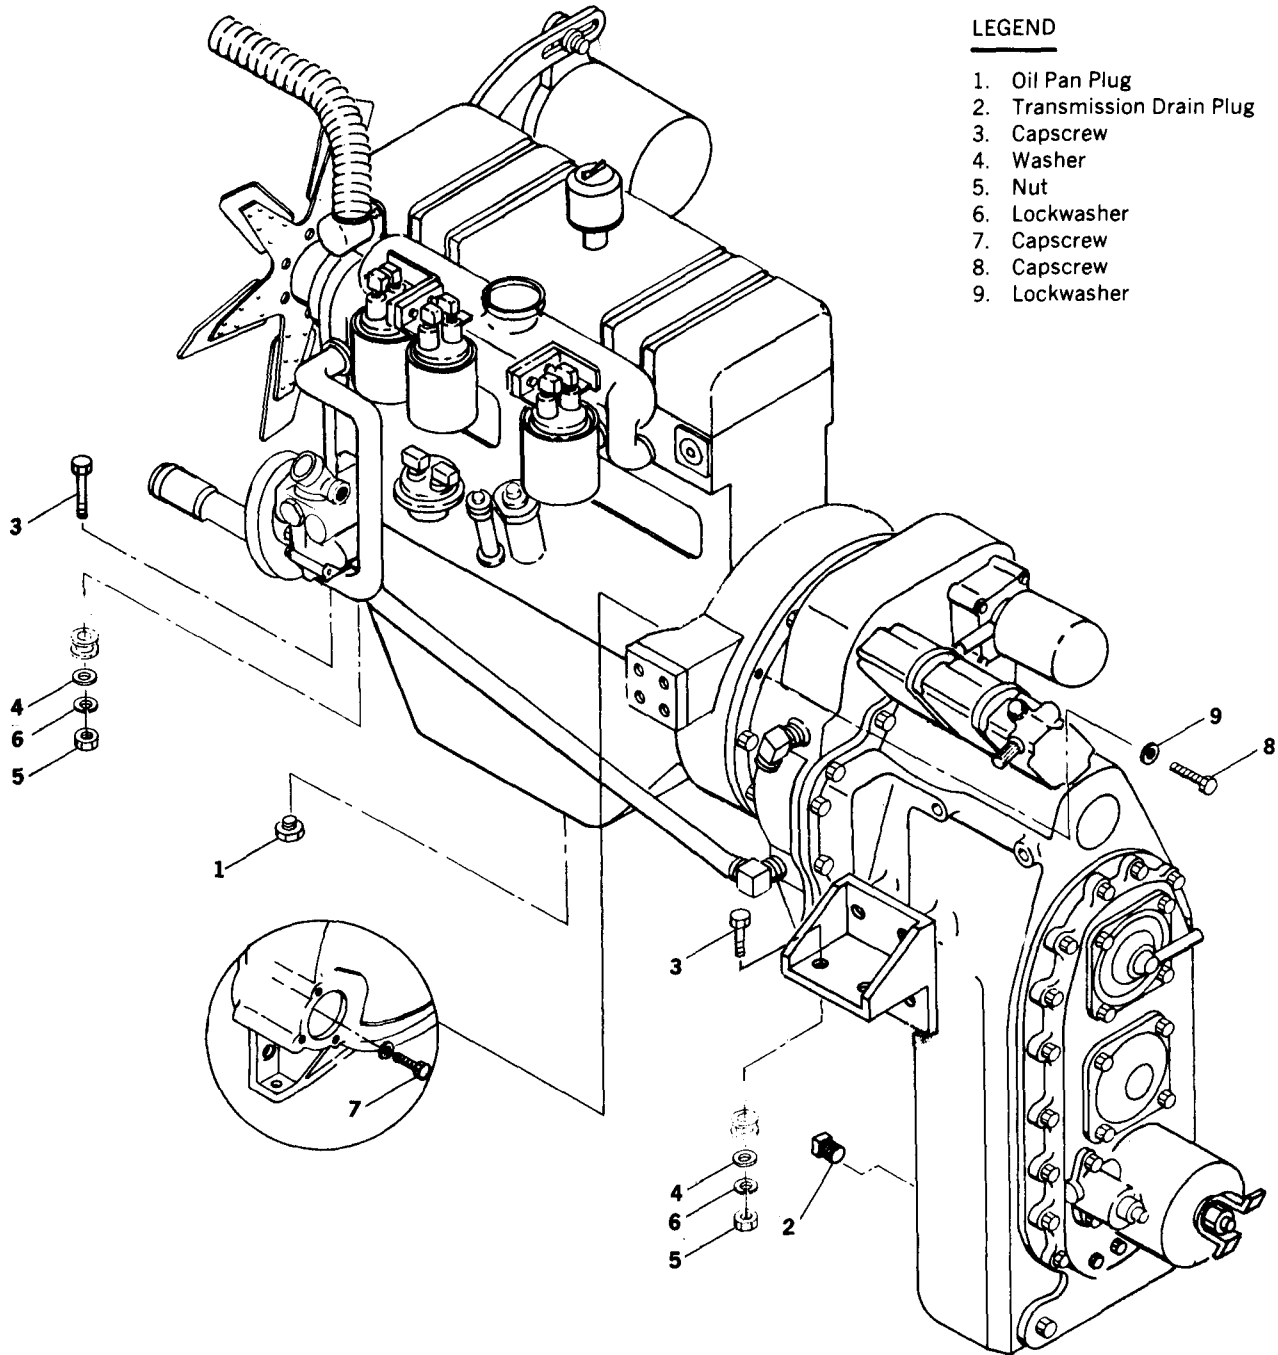

Figure 4-2. Transmission Removal
c. Remove oil pan plug (1, figure 4-2) and drain engine oil into five gallon container. Remove transmission drain plug (2) and drain transmission oil into a five gallon container.
l. Attach hoist to engine and transmission assembly. Remove capscrews (3), washers (4), lockwashers (6), and nuts (5), securing engine and transmission to frame. Remove engine and transmission. Secure engine to maintenance stand.
m. Remove cover on flywheel housing (opposite starter). Manually rotate crankshaft until capscrew (7) is visible. Remove capscrew (7).